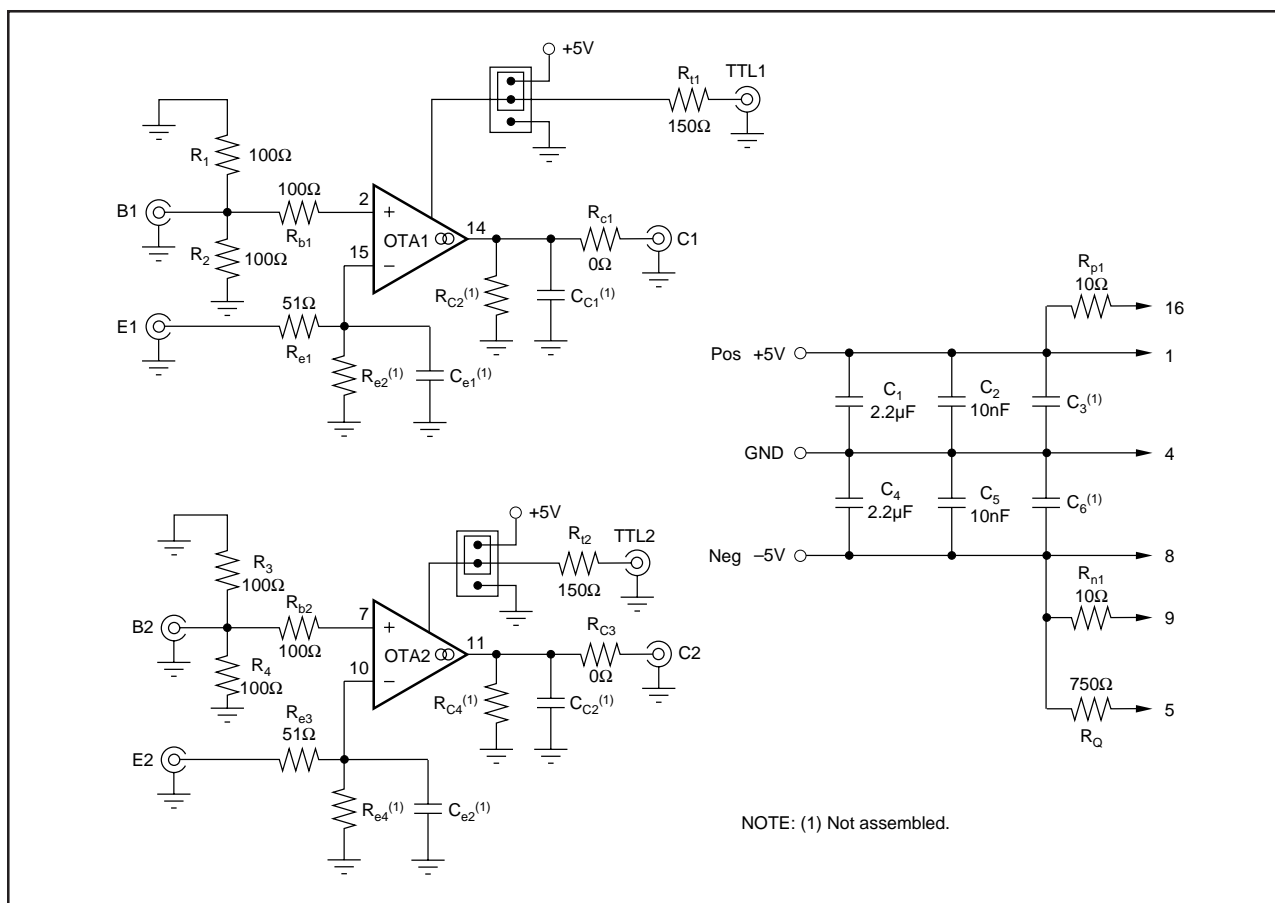

FIGURE 8. Evaluation Circuit Schematic.
- Some applications may require a limitation for the maximum output current to flow. This can be achieved by adding a resistor (about 10Ω) between supply lines 1 and 16, and, 8 and 9 (see also Figure 8). The tradeoff of this technique is a reduced output voltage swing. This is due to the voltage drop across the resistors caused by both the collector and the emitter currents.